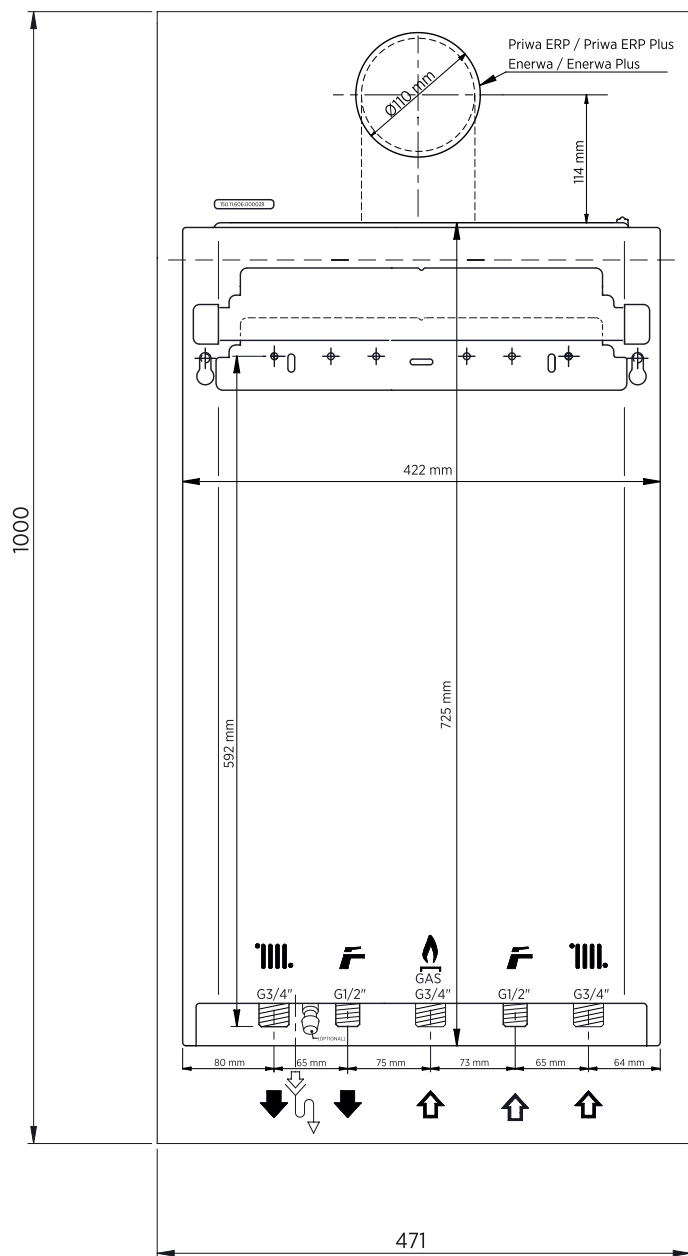

Figure 1 Installation scheme
- I. Installation Scheme (Figure 1)